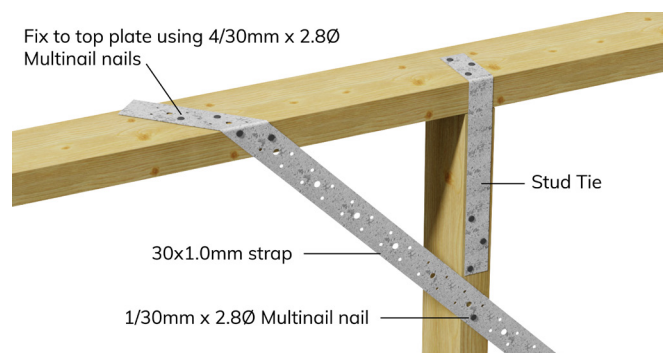

Figure 5: Nails to top plate - for 3.0kN/m bracing wall
- Wrap the ends of the Flat Tension Bracing around the plate and secure with nails (refer to Figure 5).